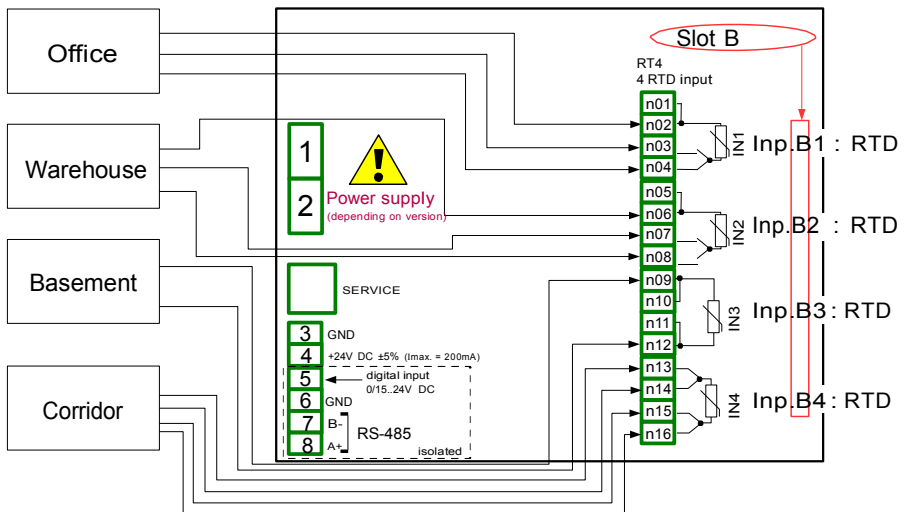

Fig. 7.65. Schematic diagram for the RT4 module
Before measuring temperature, user should configure the device, and then connect the sensors as shown in Fig. 7.65.
- Source parameter set as Inp. B1: RTD (see the connection in Fig. 7.65),